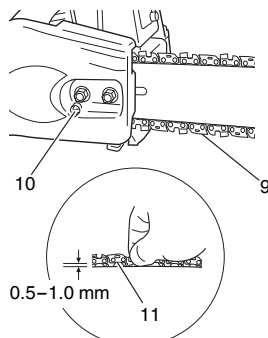

Fig. 5
7. Raise the bar end, and tighten the chain (9) by turning the tension adjustment bolt (10) clockwise. To check proper tension, lightly lift up the center of chain and there should be about 0.5 – 1.0 mm clearance between bar and edge of drive link (11). (Fig. 5, 6)